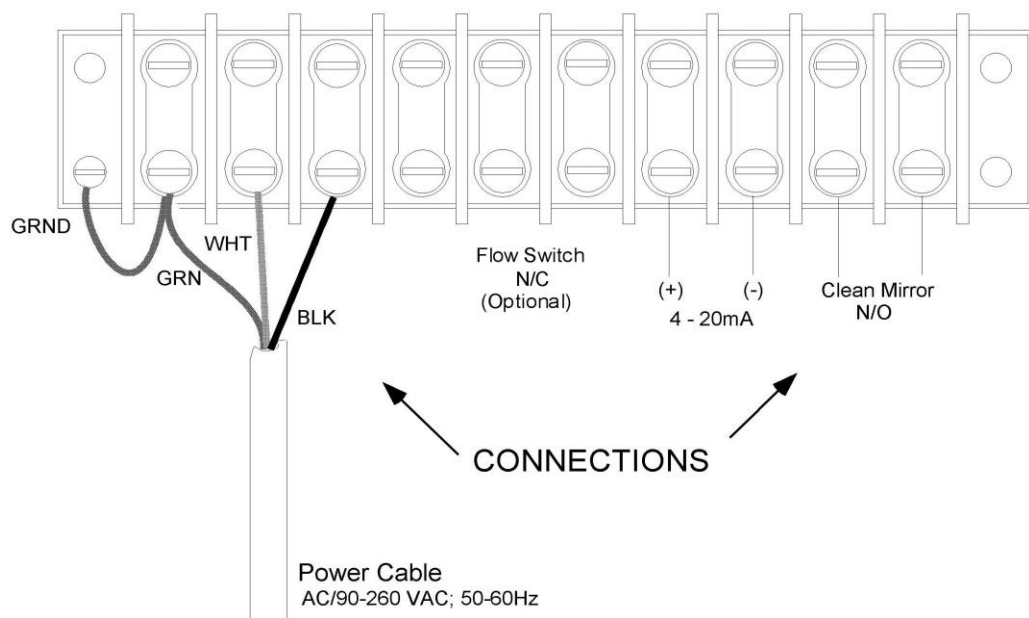
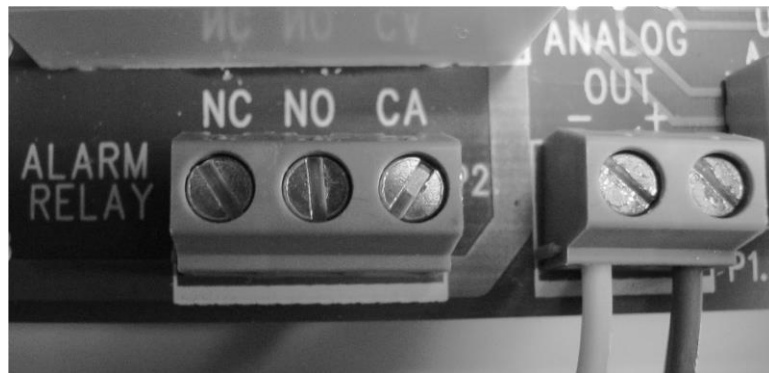

Figure 4-2 Terminal Strip Wiring
Figure 4-3. Alarm and Analog connections
See Figure 4-3. Connect one of the Alarm Relay signal wires to the C (Common) terminal, and the other wire to either the NO (Normally Open) or the NC (Normally Closed) terminal. Depending upon the choice of the installer, when the measured dew point exceeds the set point, the relay contacts will either close or open.
Refer again to Figure 4-3. The 4 to 20 mA Analog Output at the PCB connector P1 is factory wired to the main terminal strip shown in Figure 4-2 above. Wiring connections should be made there for operation of data loggers, A/D converters, analog recorders, etc. The standard dew point range for the Analog Output is shown in the Specifications section.
The Clean Mirror Relay is a Normally Open (NO) relay that is energized whenever maintenance to the mirror is required. The connections are located on the main terminal strip shown in Figure 4-2. During an ABC Cycle, all alarm functions, including the relay, are disabled. However, if an ABC Cycle is initiated when an alarm condition is present, the relay will remain energized until the cycle is complete. At the end of the cycle the relay will remain energized if the clean mirror condition is still present or will be de-energized if the condition has passed. Before connecting any device to the Clean Mirror Relay contacts, check the contact ratings in the Specifications section.